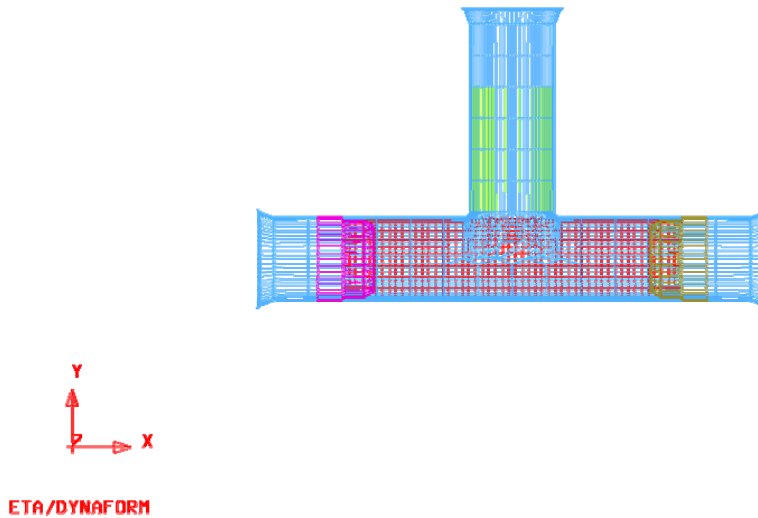

Figure 3.38 Movement condition by animation
5. The time step and displacement of tools are printed on the upper left hand corner of the display area. See Figure 3.38.